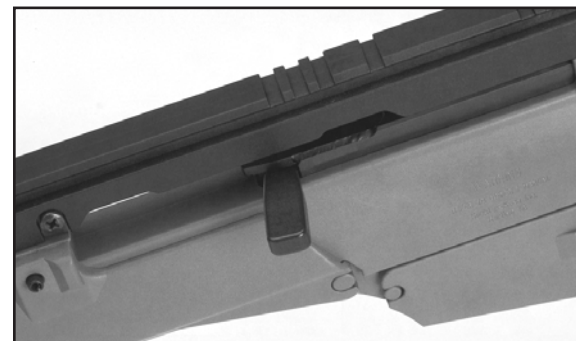

Figure 23 Cocking lever shown in its "forward assist" position
- 1 • After the magazine has been inserted, swivel out the cocking lever and push it inward against the bolt head carrier until it engages (see Figure 23).